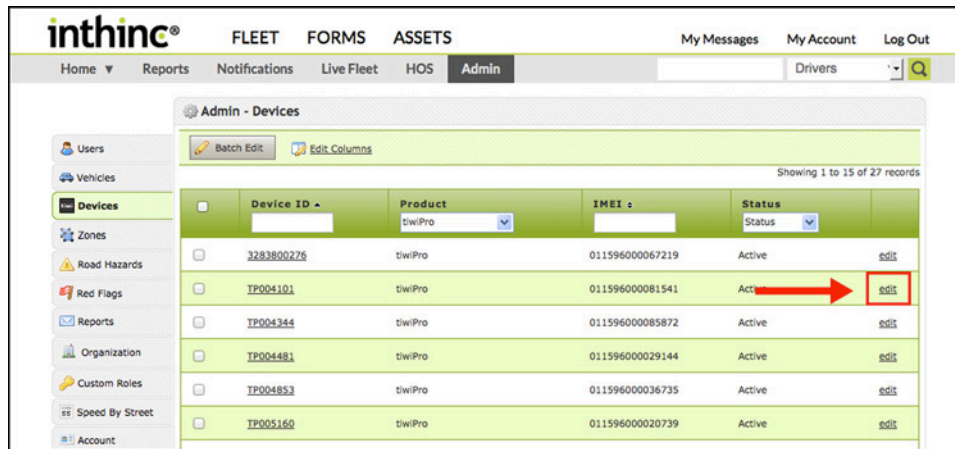

Figure 44 Admin > Device list with Edit link highlighted
- 2 Locate the *Device* that you are assigning to the vehicle in the list, and click the **Edit** link in the far-right column. (Figure 44)